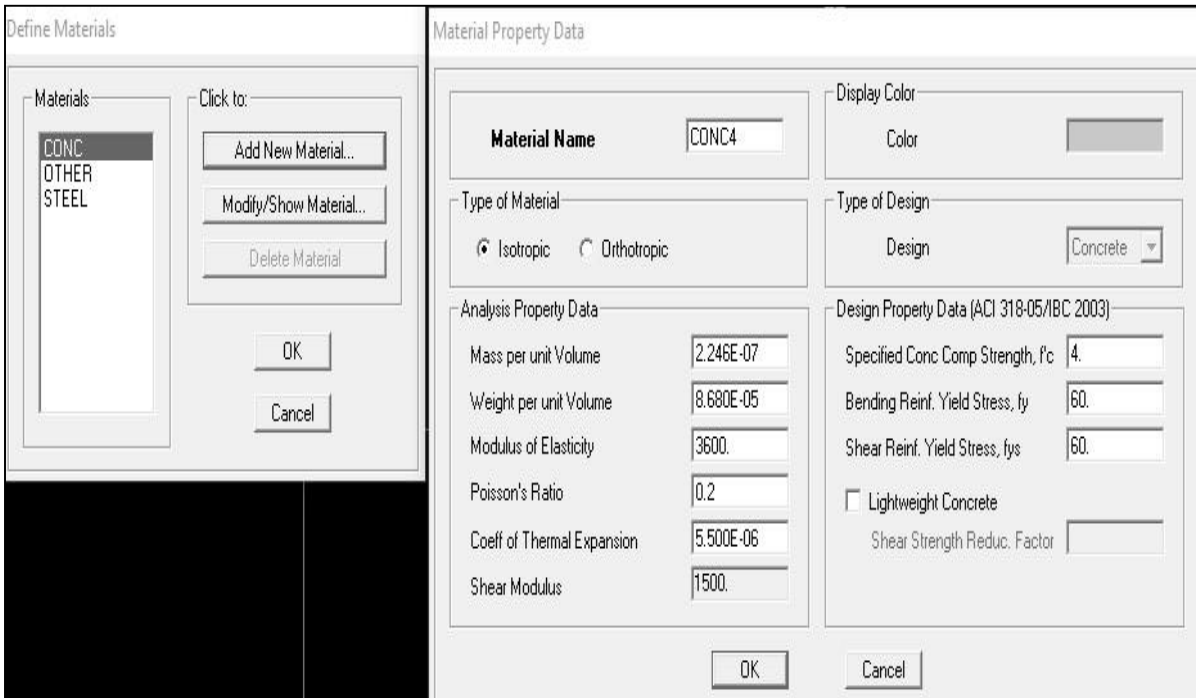

Fig : 2.3
- 2.1. Define → Materials Properties → Add New Materials → Material Name = CONC4 → Specified Conc. Comp. Strength = 4 → Modulus of Elasticity = 3600 → OK → OK. (Fig: 2.3)